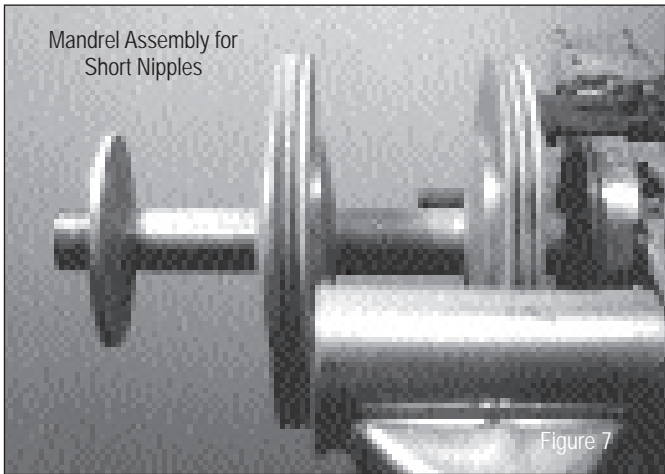
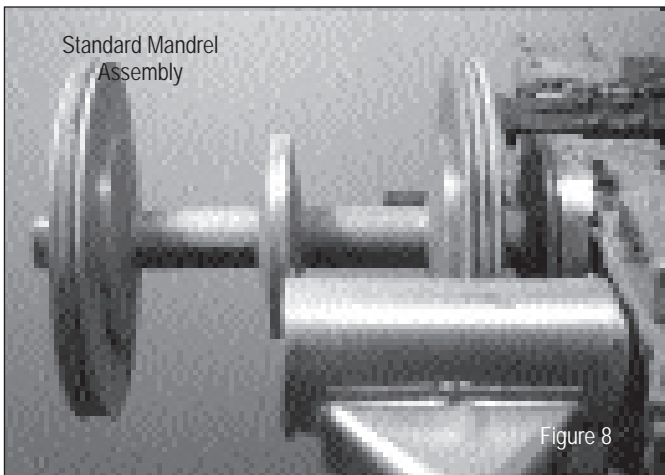

Figure 7
Figure 8
12. Select the mandrel size and assemble the tool. (See Figs. 7 and 8.) Figure 7 shows the mandrel set for short nipples. Figure 8 shows the standard mandrel assembly. The standard mandrel assembly is used for everything except short nipples.